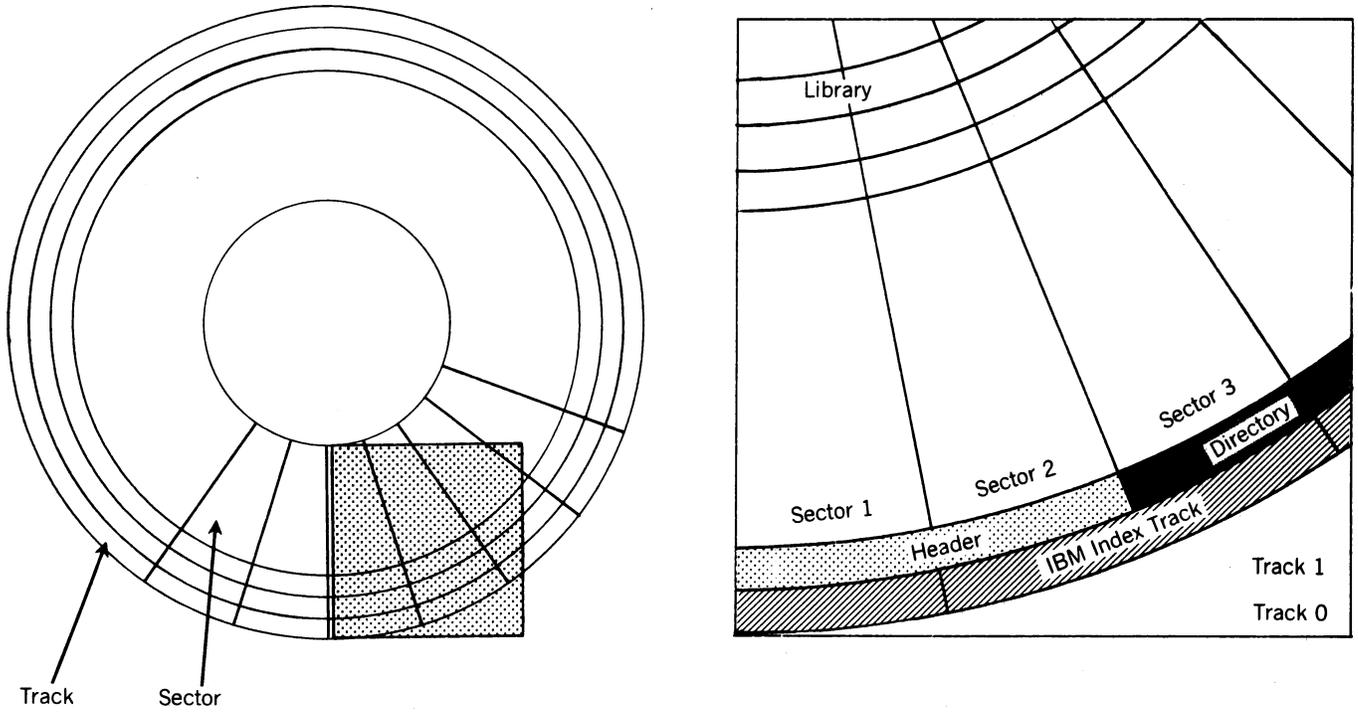

Fig. 4—Diskette Layout
6.02 Each diskette is composed of 77 tracks, and each track contains 26 sectors. General user information (data) is stored in the "library" section of the diskette and a listing of all files is kept in the Directory (Figure 4).